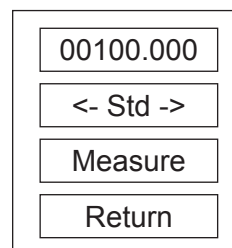

Figure 5. Standard screen
- After the blank is read, the Standard screen will appear (Fig. 5).